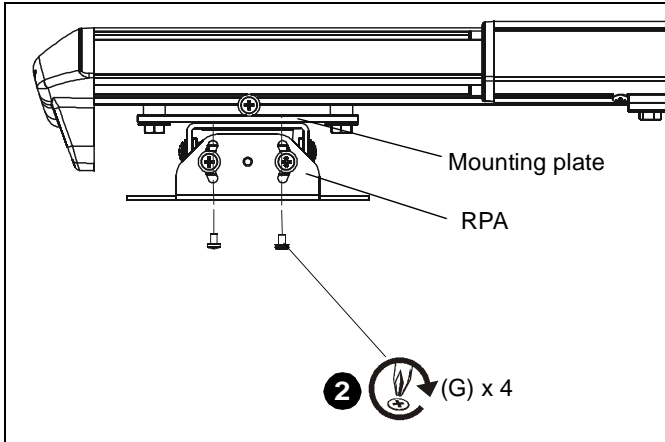

Figure 20
2. Install four 1/4-20 x 3/8" Phillips pan machine screws (G) through RPA holes and into projector mounting plate. (See Figure 20)